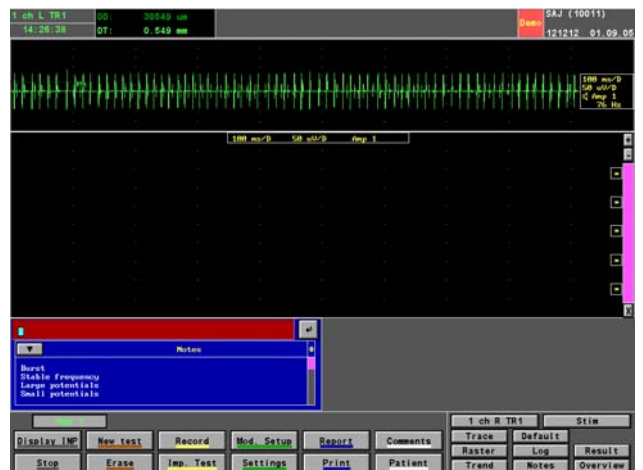

Figure 30 Position Display included DD and DT in the upper-left part of the screen
If such an option is active and working faultlessly, the Position Display has the following form, see Figure 30 below:
In the upper-left part of the screen the current position of the electrode is displayed in the Position Display , see Figure 30 above. The Distance to the Target (DT) value is displayed in green figures. When the position is changed, the color turns yellow and remains so, until a full sweep is recorded (typically 10 seconds). During this period of time, it is recommended not to save the signal as it represents different positions and may include movement artifacts stemming from the electrodes. For the same reason, continuous recording is as default not active while this display is yellow. To